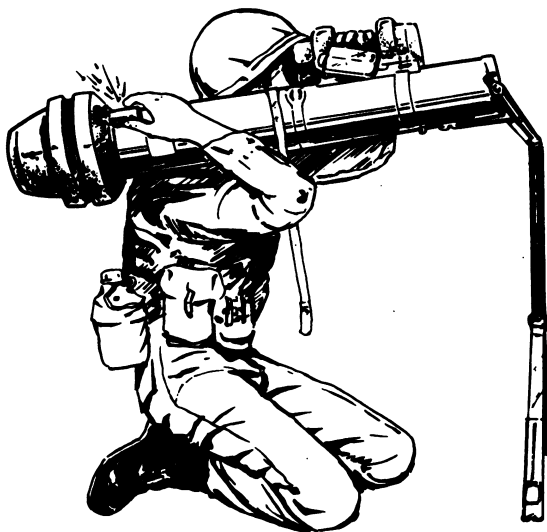

Figure 1
2. If the round still does not fire, cautiously feel the thermal battery (fig. 1).